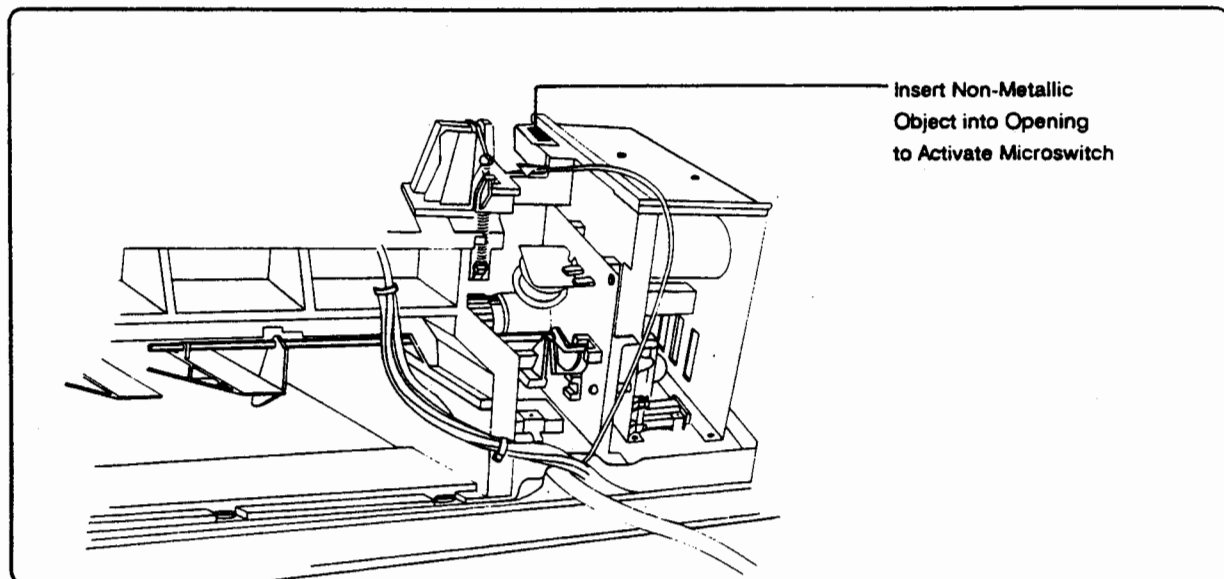
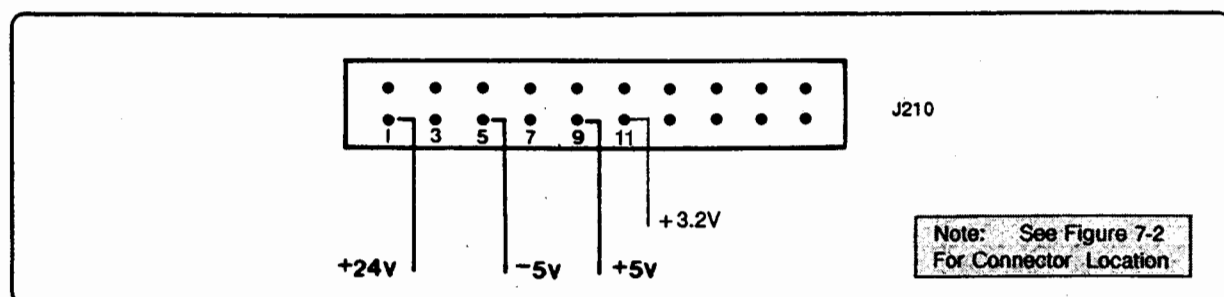

Figure 7-6. Defeating the Top Cover Assembly Microswitch
Figure 7-7. J210 Test Connector Test Point
2. Using a voltmeter with frame ground as a reference, monitor the voltage at J210-11 while manually activating the printer Top Cover Assembly closed microswitch (see Figure 7-6 and Figure 7-7). The measured voltage should toggle from zero to +3.2 Vdc ($\pm 5\%$) as the switch is activated. If the voltage is present, yet the message persists, replace the DC Controller PCA.
If the voltage is not present, +24B Vdc ($\pm 5\%$) can be measured at J212-13 (bottom cover must be removed) while activating the Top Cover Assembly closed microswitch (see Figure 7-6).